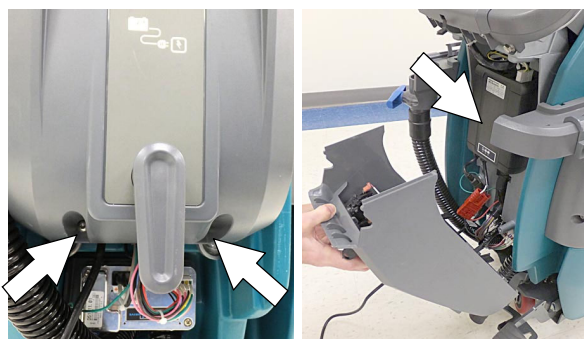

FIG. 83
3. Using a T25 star screwdriver, remove the two screws located at the bottom of the control console to access battery charger (Figure 83).